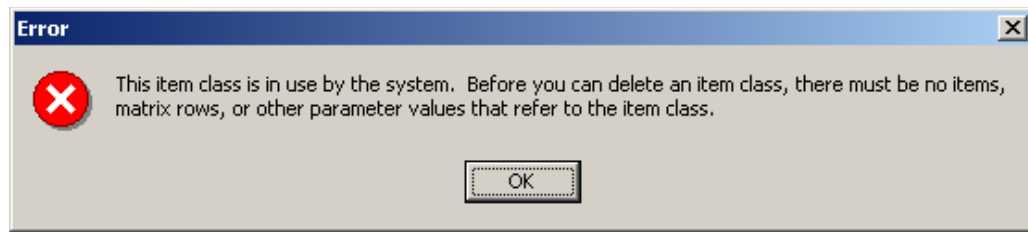

Figure 8-50. Item Class Deletion Error
- If the item class is currently in use, you receive the following message (Figure 8-50):